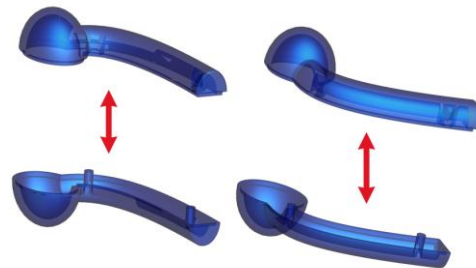

Fig. 2
1. Combine the antenna parts (9). (Fig. 2)